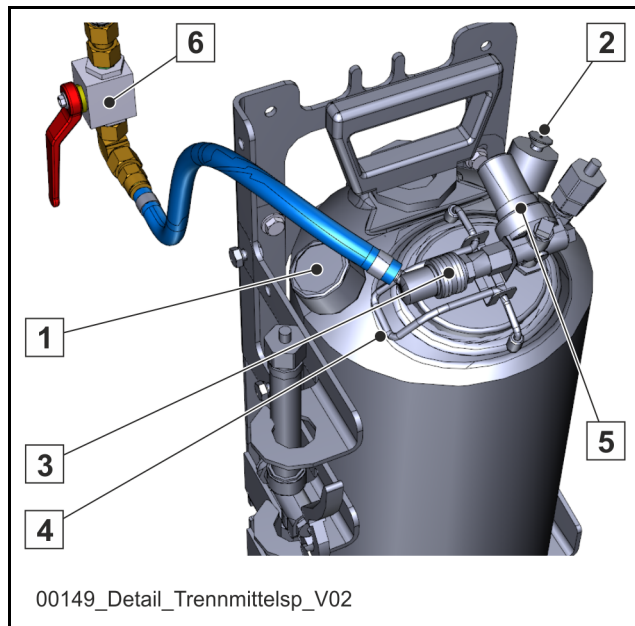

Fig. 510
Only open the pressure tank if the pressure gauge on the pressure tank (1) (Fig. 510) is pointing to "0".
Caption (Fig. 510)
2. Connect the quick-acting coupling (3) (**Fig. 510**) to the compressed air supply of the pressure tank.
3. If available, open the ball valve (6) (**Fig. 510**).
The pressure release valve (5) (**Fig. 510**) is set to the optimal value in the factory and may only be changed by a SCHWING representative.
- Disconnect the compressed air supply from the pressure tank, if available, by closing the ball valve (6) (**Fig. 510**) or by switching off the vehicle and disconnecting the quick-acting coupling (3) (**Fig. 510**).
- Open the pressure relief valve (2) until compressed air no longer exits the pressure tank.